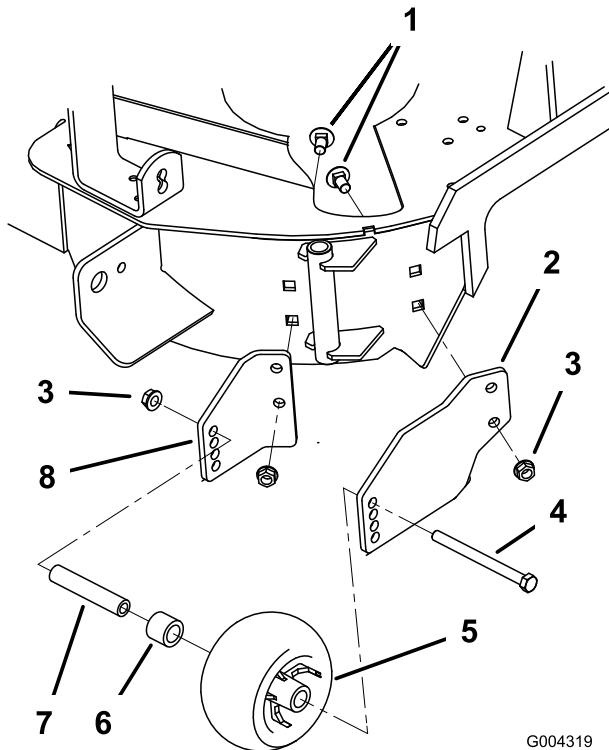

Figure 1
1. Loosely install the inside bracket to the mower deck with 2 carriage bolts (3/8 x 3/4 inch) and 2 nuts (3/8 inch) as shown in Figure 1.
2. Loosely install the outside bracket to the mower deck with 2 carriage bolts ($3/8 \times 3/4$ inch) and 2 nuts ($3/8$ inch) as shown in Figure 1.
3. Install the anti-scalp roller, spacer, and bushing between the two mounting brackets with a bolt ($3/8 \times 4-1/2$ inches) and nut ($3/8$ inch)(Figure 1).
4. Tighten the bolts holding the mounting brackets to the mower deck (Figure 1).